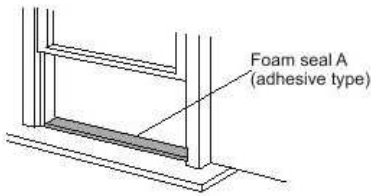

Fig.5
1. Trim foam seal (adhesive type) to the proper length and attach to window stool. (Fig.5)